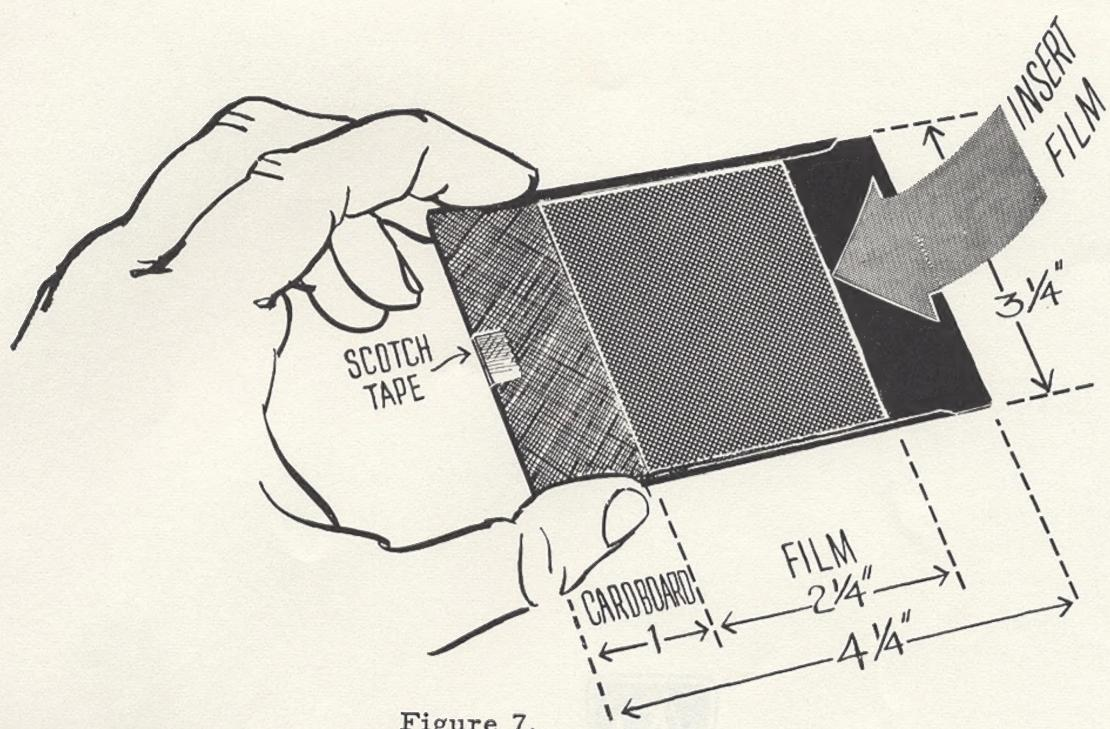

Figure 7.
The most economical size for projection of 3-1/4 x 4 slides is 2-1/4 x 3-1/4 cut film. Lower cost - no waste. Use as follows: (1) Place #2420B plate holder kit in #670 plate holder. (2) Use 2424 film sheath and space so that 2-1/4 x 3-1/4 film placed in short dimension is centered to the long dimension. (3) Cut piece of black cardboard 3-1/4" long and 1" wide. (4) Slide this piece in #2424. (5) This will center cut film 2-1/4 x 3-1/4 in a 3-1/4 x 4-1/4 sheath (#2424). (6) Suggest marking ground glass 2-1/4 x 3-1/4 to reference coverage of projected image. (See Figure 7)